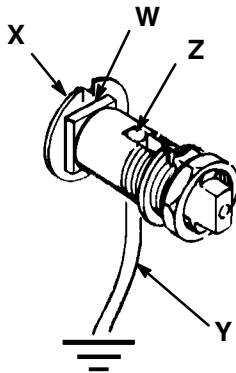

Fig. 1
1. *Pump*: loosen the grounding lug locknut (W) and washer (X). Insert one end of a 1.5 mm² (12 ga) minimum ground wire (Y) into the slot in lug (Z) and tighten the locknut securely. See Fig. 1. Connect the other end of the wire to a true earth ground.